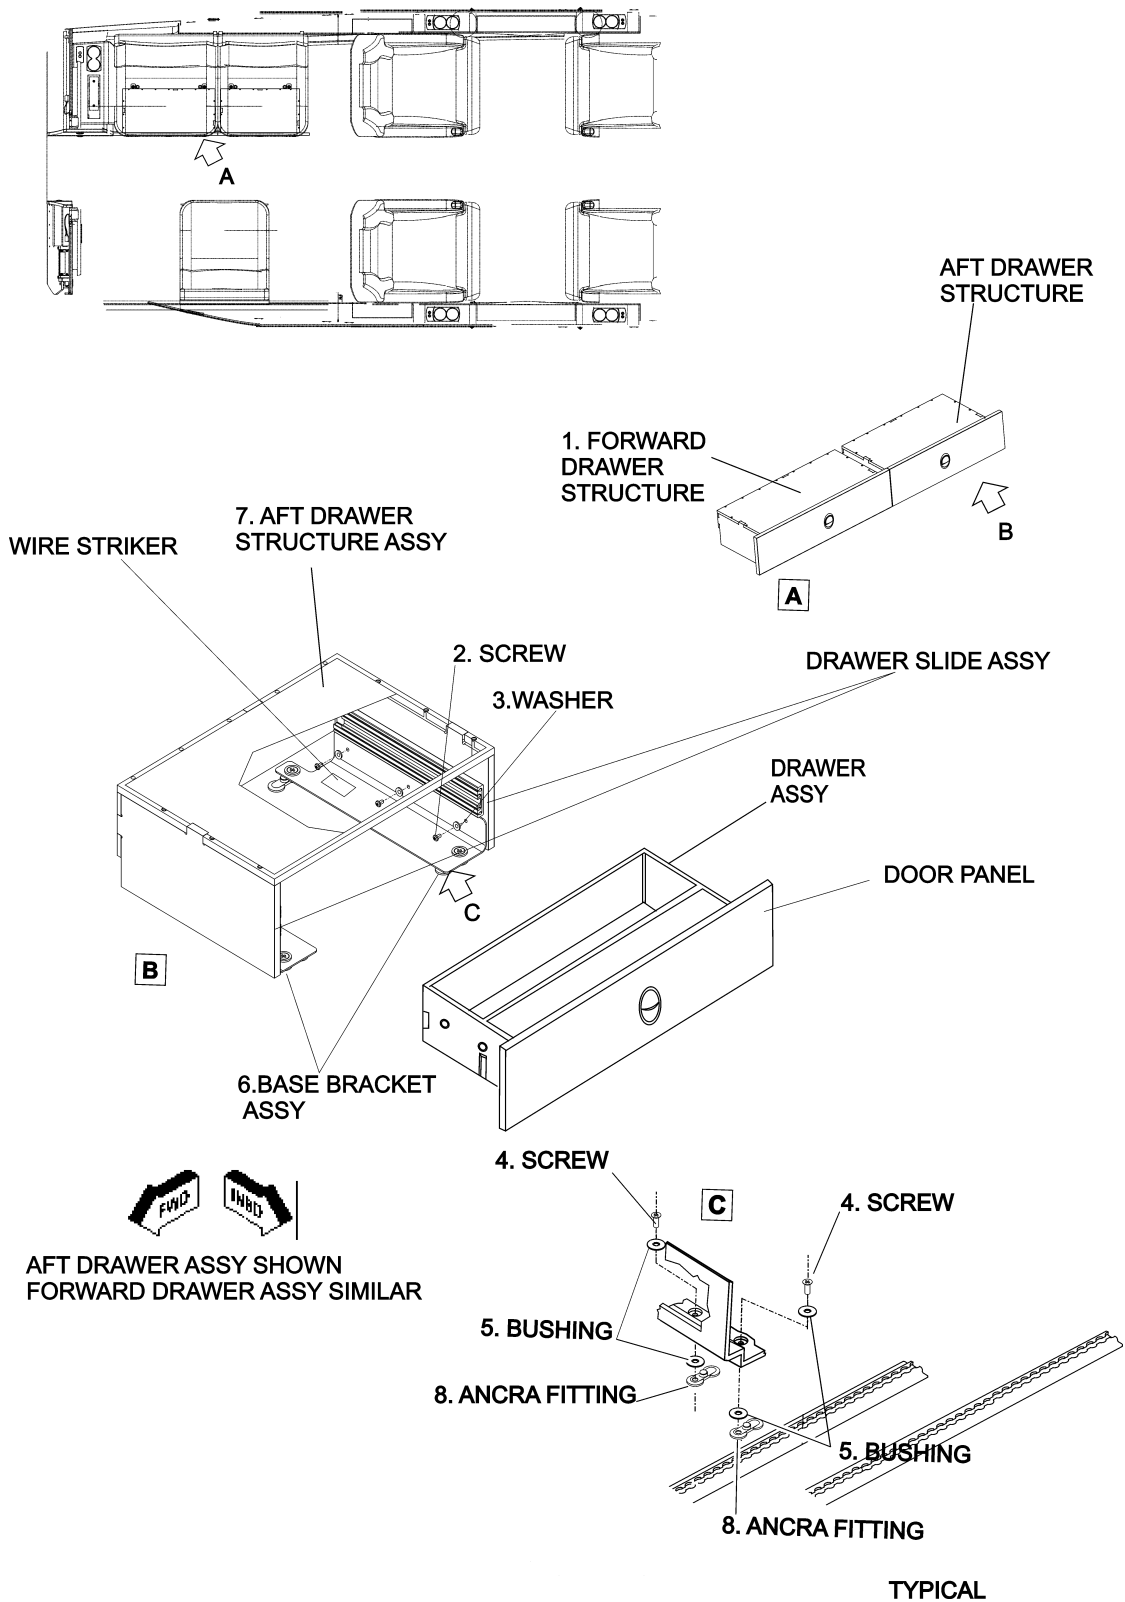

Fig. 277 - RH Hand Divan Floor Drawer - Removal/Installation
79. Right Hand Divan Floor Drawer Assembly - Removal (Ref. to Fig. 277)
- (1) Pull out the Forward Drawer Assy to reach the release trigger on the inner track of the Forward drawer Structure.
- (2) Press the release trigger to release the drawer from the drawer frame.
- (3) Remove the three screws (2) and the three washers (3) from both the LH and RH base brackets (6)
- (4) Remove the screws (4) and the bushings (5)
- (5) Carefully remove the Structure Assy (7).
- (6) Remove the Base Bracket Assy (6)
- (7) Remove the bushings and the Ancra Fittings (8).
- (8) Repeat this procedure for the Aft Drawer.
80. Right hand divan floor drawer Assembly - Installation (Ref. to Fig. 277)